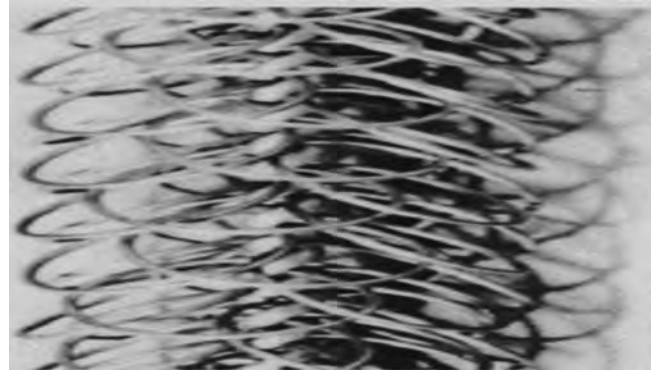

FIGURE 10.34 Wire mesh insert.
- Figure 10.34 illustrates wire mesh tube insert.